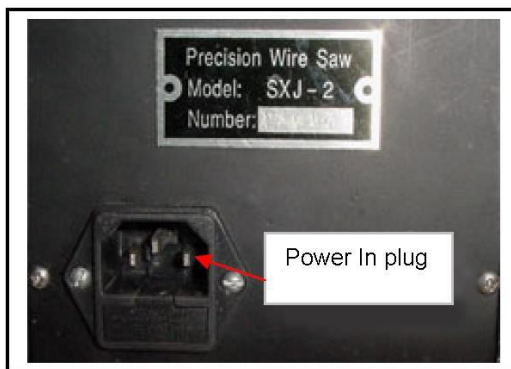

Figure 7
2. Plug into AC 110V-230V power supply (Fig. 7).